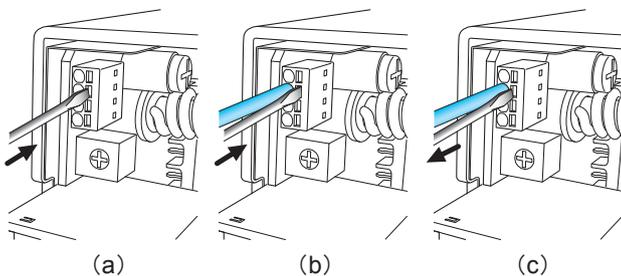

Fig.6.9 Connecting method of Stranded wire
- Step1: Insert a flat-blade screwdriver into the release hole. (Refer to the fig.6.9(a).)
- Step2: Insert the wire until the electrode is not visible with the flat-blade screwdriver inserted in the release hole. (Refer to the fig.6.9(b).)
- Step3: Remove the flat-blade screwdriver from the release hole. (Refer to the fig.6.9(c).)